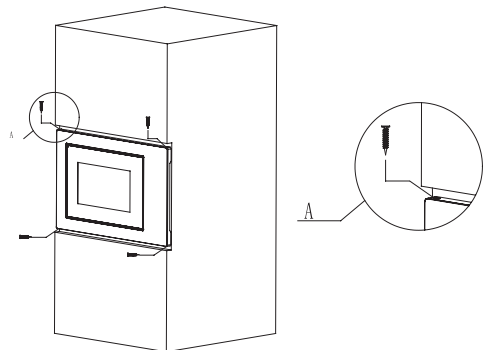

Fig. 4
- d) Use the screws of parts packing to secure the microwave oven in the cabinet. (Fig.4)